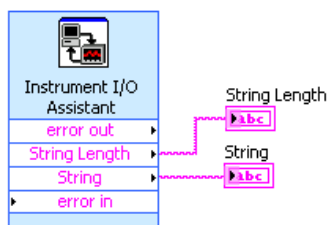

Figure 11.18
1. Open a blank VI and build the block diagram shown in Figure 11.18.